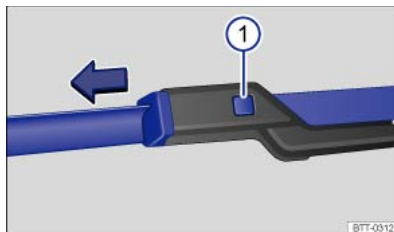

Fig. 202 Changing the windscreen wiper blades.
- Press and hold the release button ⇒ Fig. 202 ① and simultaneously pull off the wiper blade in the direction of the arrow.